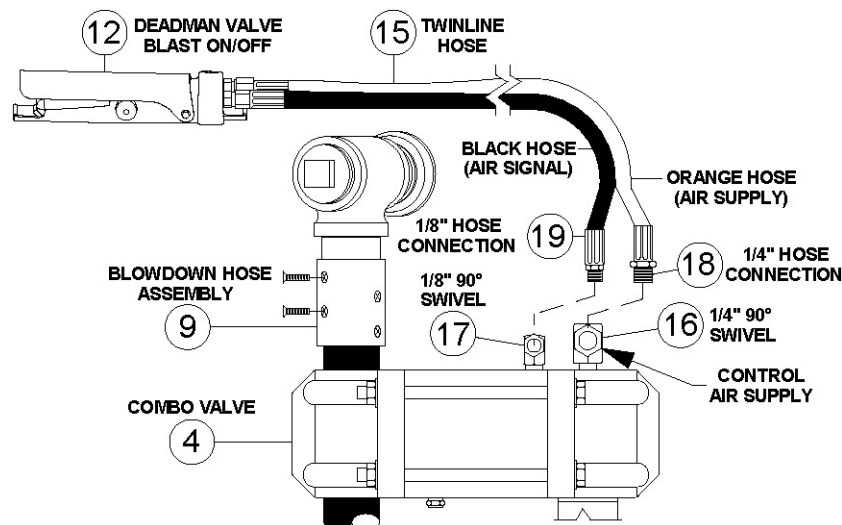

Figure 5.3 – MV2/Combo Pneumatic Deadman Blast Control System
5.8.1. Pneumatic Deadman System: When the pneumatic deadman (#12) lever is pressed down, air supply from the orange hose of the twinline hose (#15) flows into the black hose. Air flows through the black hose to the signal port of the Combo Valve (#4) to open it and send air into the abrasive blaster and blast air hose. When the deadman lever is released the air signal is cut off and the Combo Valve is closed to shut off the supply air and depressurize the blaster through the blowdown hose assembly (#9). See Figure 5.3 and the drawings in Sections 9.1 and 9.2.